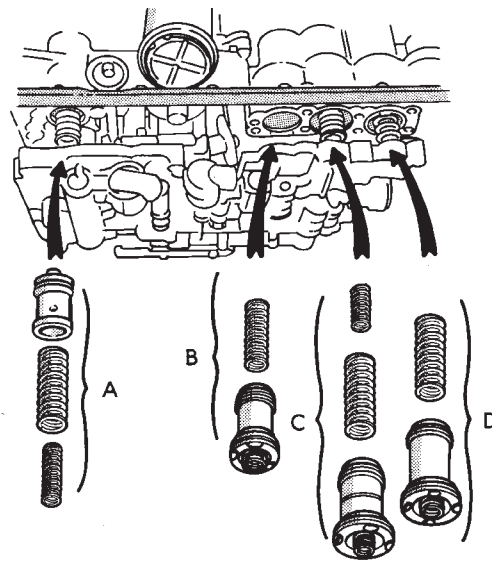

Fig. 29 Accumulator Pistons, Springs And Spacers
(6) Install new O-ring seals on pistons. Lubricate seals and pistons and piston bores with transmission fluid.
(7) Install pistons and springs (Fig. 29).
(8) Install valve body, oil screen and oil pan. Use Mopar or Loctite 599 on oil pan sealing surface.